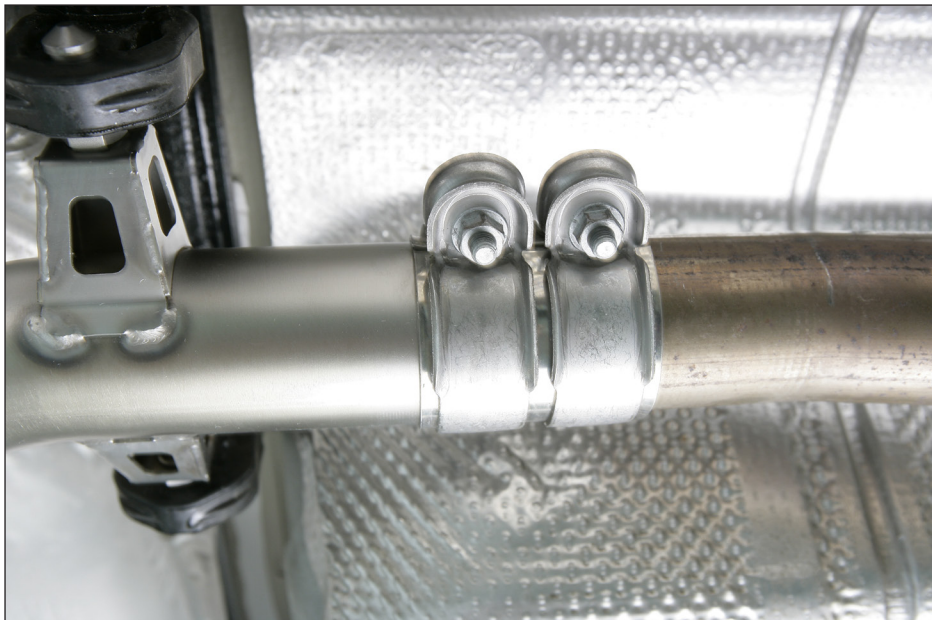

Figure 7
4. For GTD model only: use Akrapovič double clamp in link pipe - stock pipe joint (Figure 7).